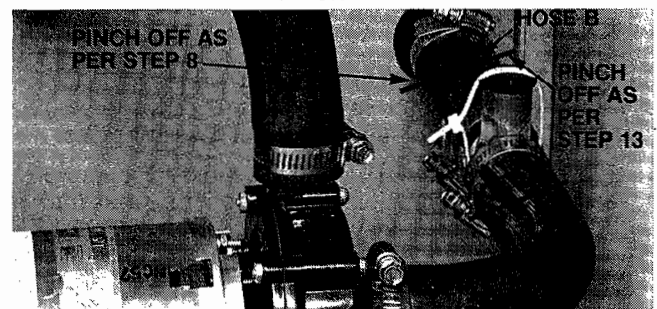

FIGURE 38
13. Install two pinch-offs, one on either side of the charging tee and remove the hose and bucket. Install the rubber stopper into the charging tee opening and secure with a wire tie. Remove the two pinch-off pliers. See Figure 38.